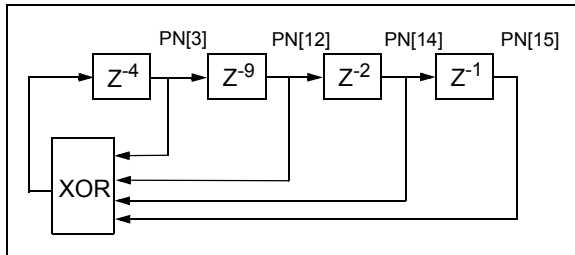

FIGURE 4-27: Block Diagram of 16-Bit LFSR for Pseudo-Random Number (PN) Sequence for Output Test Pattern.
4.15.1 PSEUDO-RANDOM NUMBER (PN) SEQUENCE OUTPUT
When TEST_PATTERNS<2:0> = 111, the device outputs a pseudo-random number (PN) sequence which is defined by the polynomial of degree 16, as shown in Equation 4-11. Figure 4-27 shows the block diagram of a 16-bit Linear Feedback Shift Register (LFSR) for the PN sequence.